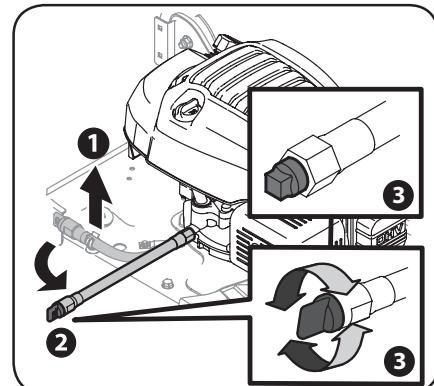
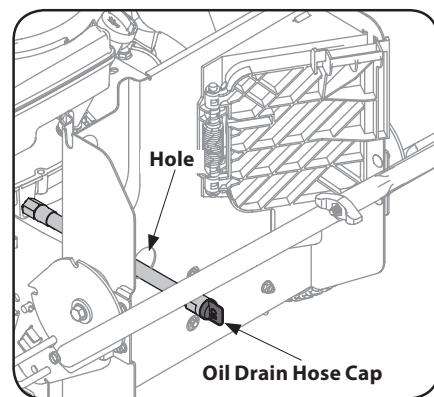

Figure 4-3
Figure 4-4
Each of the front wheel axles and casters is equipped with a grease fitting. See Figure 4-3. Lubricate with a No. 2 multi-purpose grease applied with a grease gun after every 25 hours of mower operation or once a season.
- Pull up the oil drain hose to release it from the deck. See Figure 4-3 for MTD engine and Figure 4-4 for Briggs & Stratton engine.
NOTE: The engine is equipped with either a plastic twist-off or metal square head cap. Refer to Figure 4-3 insets.
NOTE: For units equipped with the Briggs & Stratton engine and bagger, remove the bagger from the mower, which will expose a hole in the back plate of the mower when the bagger door closes to pass the oil drain hose through. See Figure 4-4.
- Unscrew the cap on the end of the oil drain hose to begin draining oil. See Figure 4-3 inset.